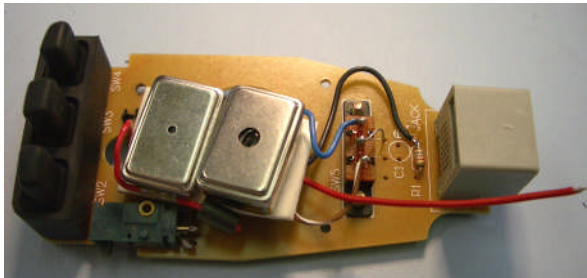

Figure 4.
9. As shown in Fig. 4, attach the wires as follows: